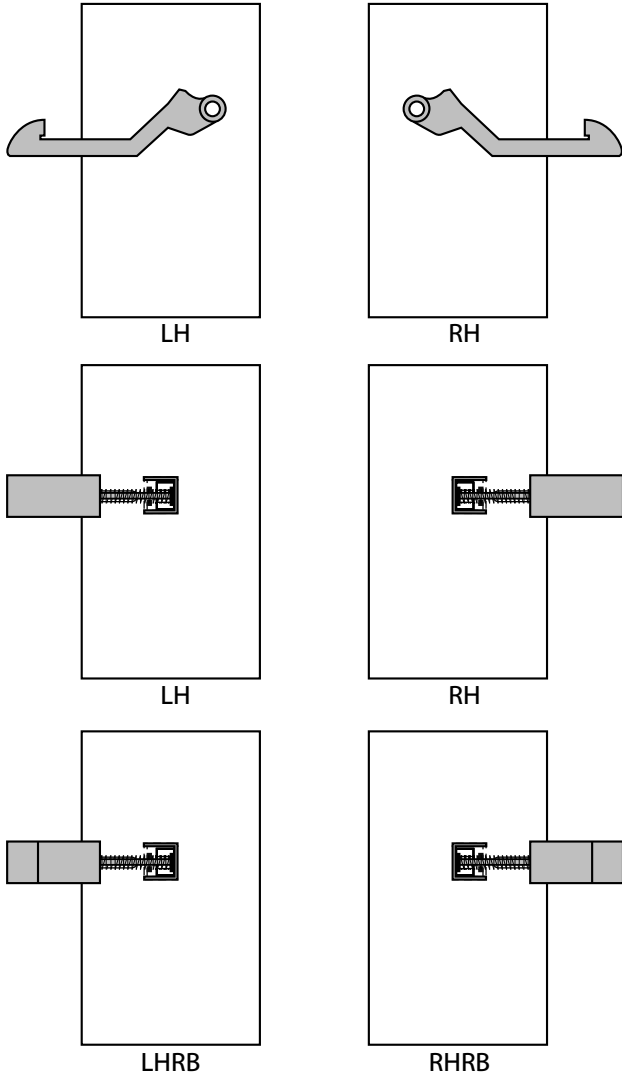

Figure 1
- 6 Position the latch bevel for the correct swing of the gate. See Figure 1.